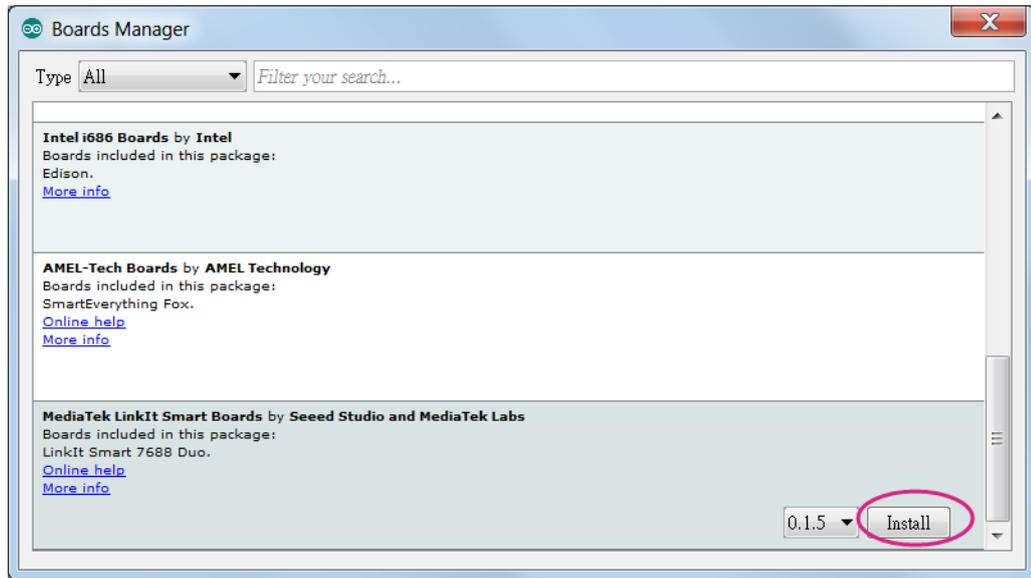

Figure 47 LinkIt Smart 7688 Board Package Menu
- 5) There should now be a LinkIt Smart Boards appearing in the boards list on the Boards Manager as shown in Figure 47. Click the “version” button to select the latest and click **Install**.